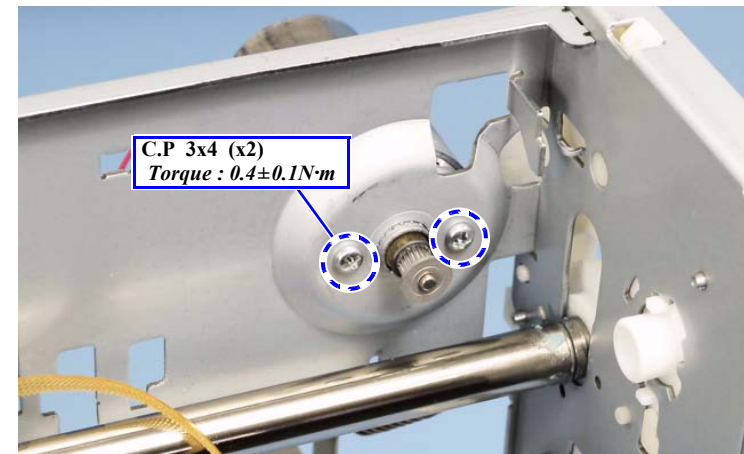

Figure 4-70. Removing the CR Motor
4. Remove the screws (x2), and remove the CR Motor. (Fig. 4-70)